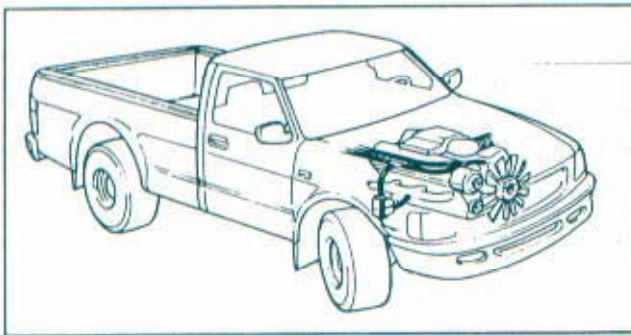

Figure 5 - Typical Installation
1.2.1.1 Mount the heater to the firewall or inside the fender. See Figure 5.